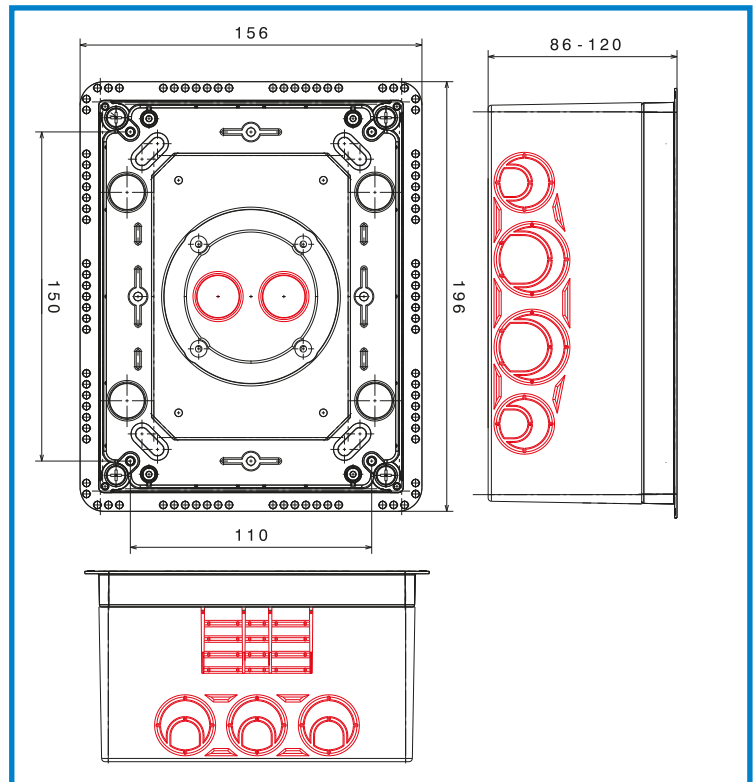
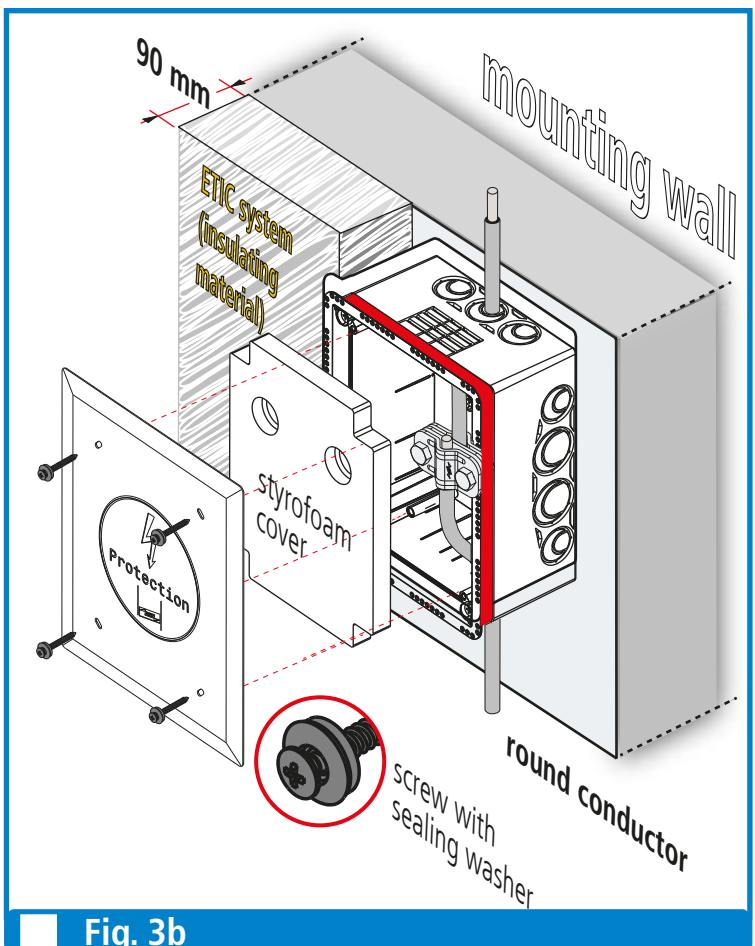

Fig. 3a
Fig. 3b
The cables can be individually led **in** and **out** of the test joint box from above, below and from both sides (or from the rear) (see Fig. 3a and Fig. 3b).
The function of the styrofoam cover supplied is to protect the entire test joint from contamination during work, applying the finishing coat, etc. (see Fig. 3b).
**The specialist company is responsible for the proper integration of the test joint box in the external thermal insulation composite system (see Fig. 3b)!**